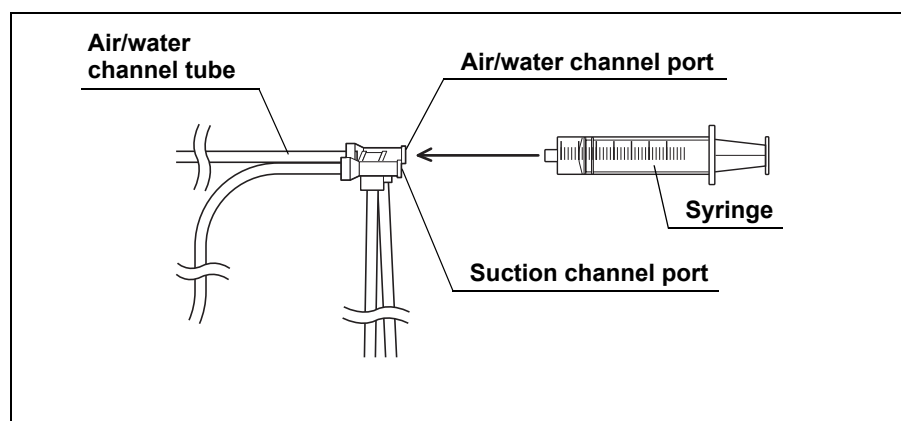

Figure 5.37
5. Move the syringe to the air/water channel port of the injection tube and flush the air/water channel with 90 ml of water (i.e., pump the syringe at least three times). (See Figure 5.37)
9. Move the syringe to the air/water channel port of the injection tube and flush the air/water channel with 90 ml of air. (See Figure 5.37)
3. Move the syringe to the air/water channel port of the injection tube and forcefully flush the air/water channel with 180 ml of the disinfectant solution. Confirm that no air bubbles exit the distal end during the sixth flush. If air bubbles still exit, flush the channel with the disinfectant solution until no air bubbles exit. (See Figure 5.37)
4. Move the syringe to the air/water channel port of the injection tube and flush the air/water channel with 90 ml of air. (See Figure 5.37)
6. Move the syringe to the air/water channel port of the injection tube and flush the air/water channel with 90 ml of the rinse water. (See Figure 5.37)